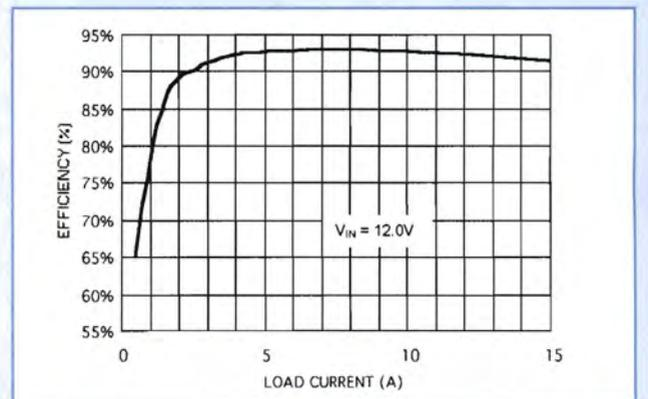

Figure 7: Efficiency of the LTC3728 inverting buck/boost supply
Despite the higher losses of a buck/boost, this circuit does have high efficiency (see **Figure 7**). At full load, the efficiency is 91.4% and the peak efficiency is 92.9%. The high efficiency is the result of using low RDS (ON) and low QG MOSFETs, using two phases instead of one and the strong gate drivers of the LTC3728. The switch node pin and VIN pin of the LTC3728 are both rated at 36V and the MOSFETs are rated at 30V, which allows them to easily handle the stress created by converting +12V to -5V.